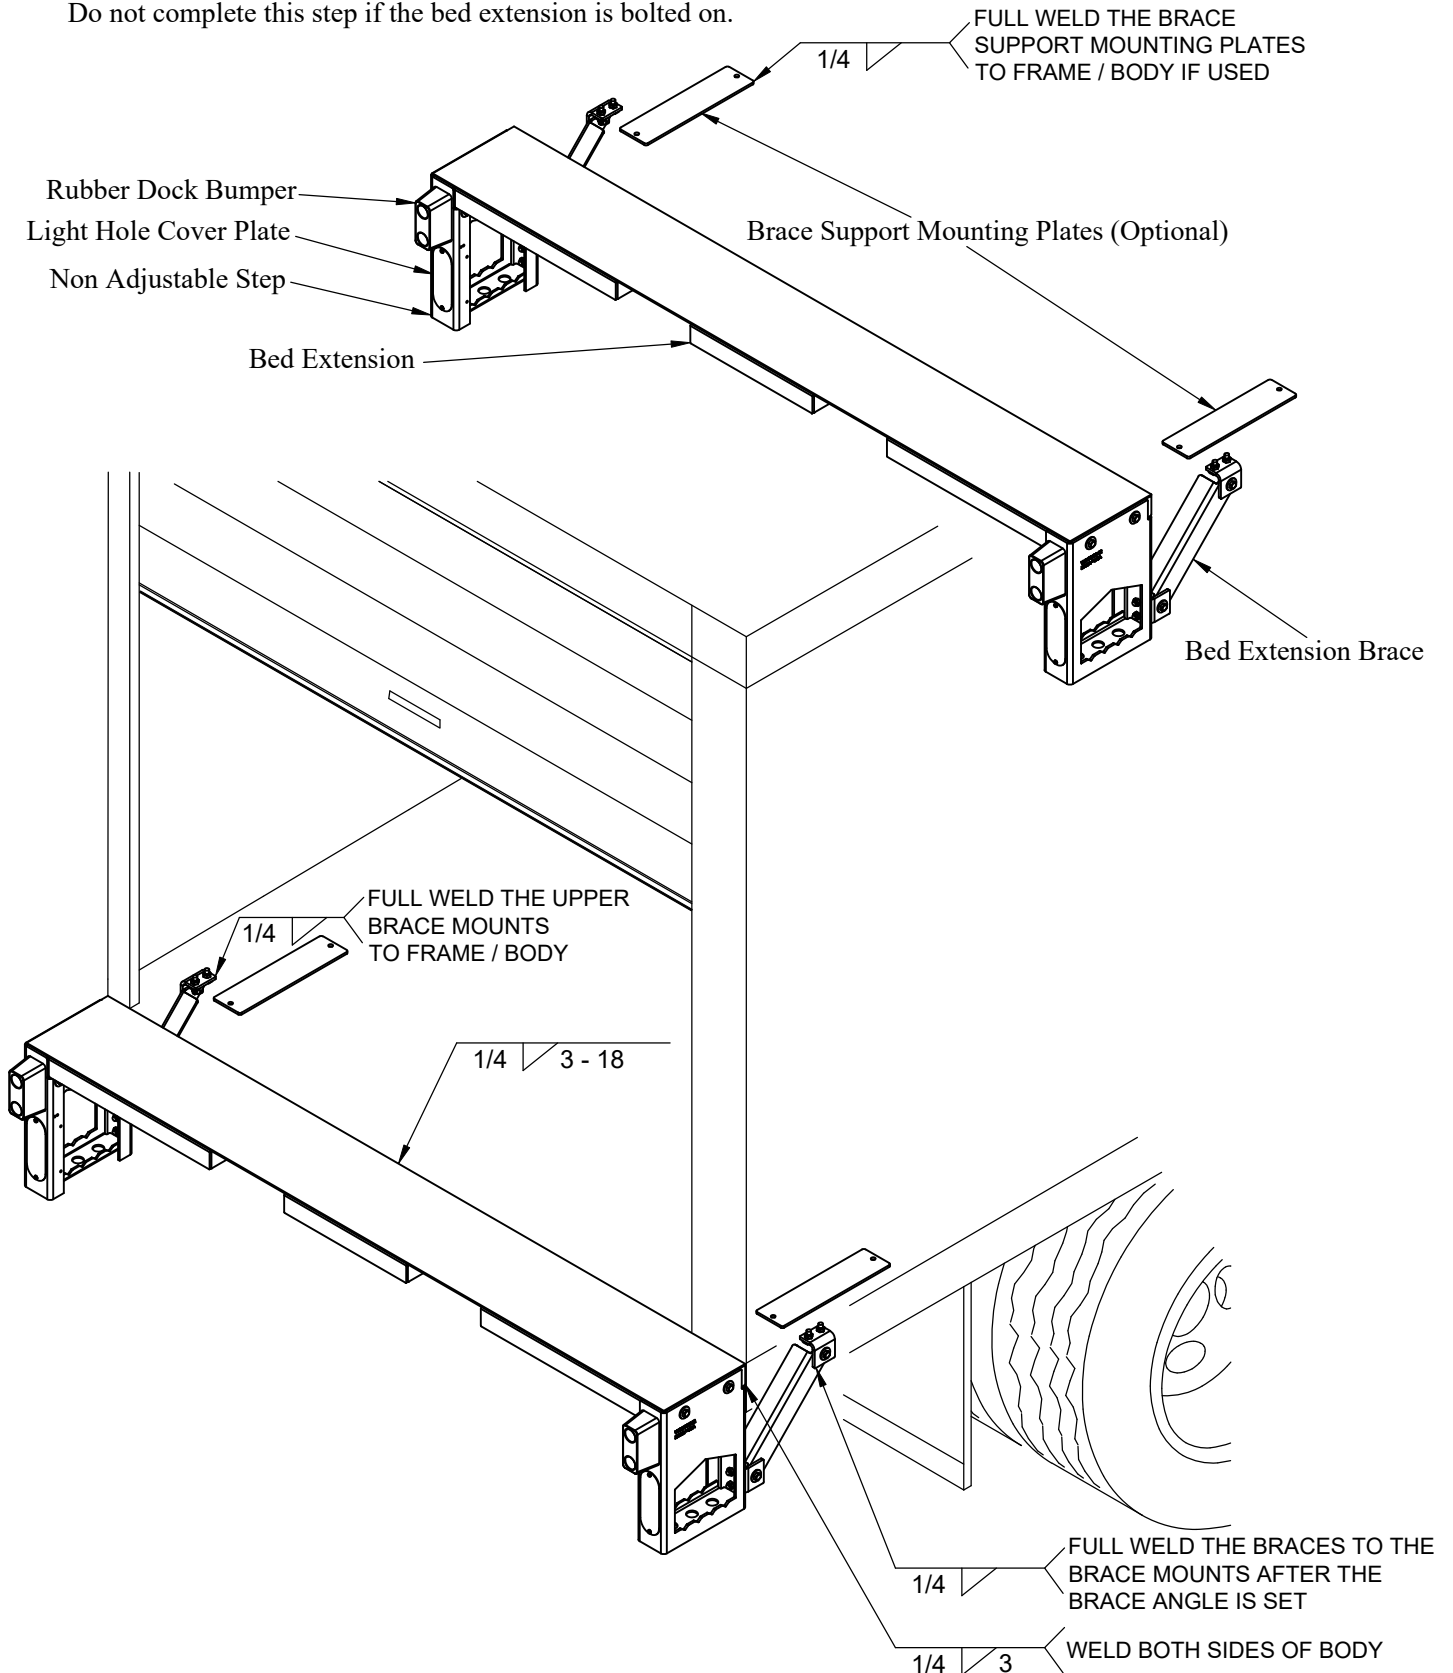

Figure 26: Bed Extension - Finish Weld Locations.
Use the optional Brace Support Mounting Plates to provide a mounting location if needed (Figure 26).
Material may need to be added to the body to provide a location to fasten the top ends of the braces (Figure 26).
3. **Finish Weld** the bed extension with 3" long 1/4" fillet welds every 18" across width (Figure 26).
1. **Weld** bed extension braces into position (Figure 26).